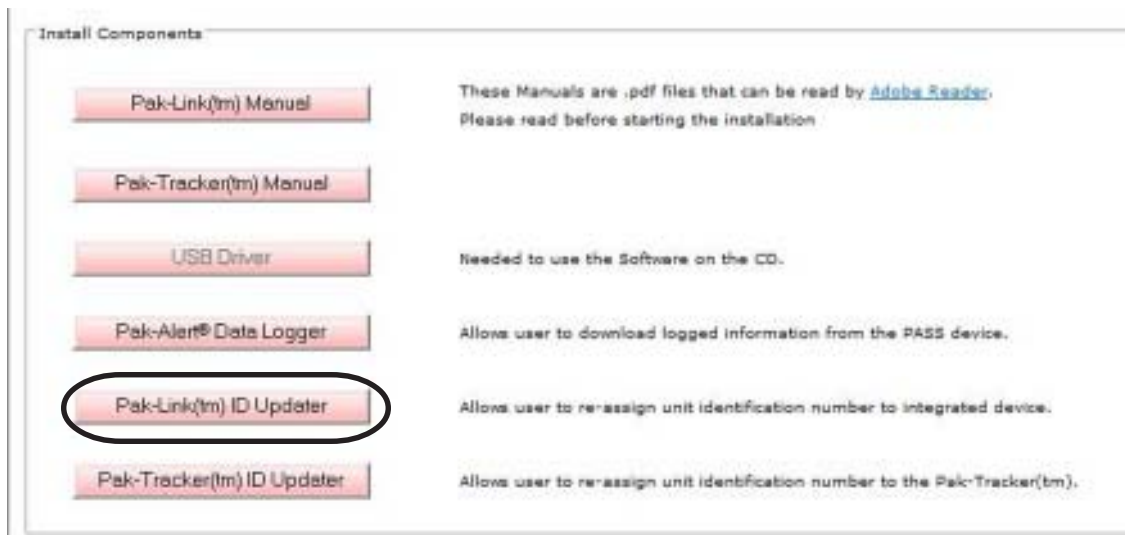

FIGURE 13
1. Select “Pak-Link ID Updater” to install the ID Updater for the PAK-ALERT Distress Alarm (either a PAK-ALERT SE 7 Distress Alarm, or a SCOTT PAK-ALERT Distress Alarm equipped with the PAK-TRACKER Locator System). Follow the instructions on the screen. You may need to close all other applications to install this program. See FIGURE 13.